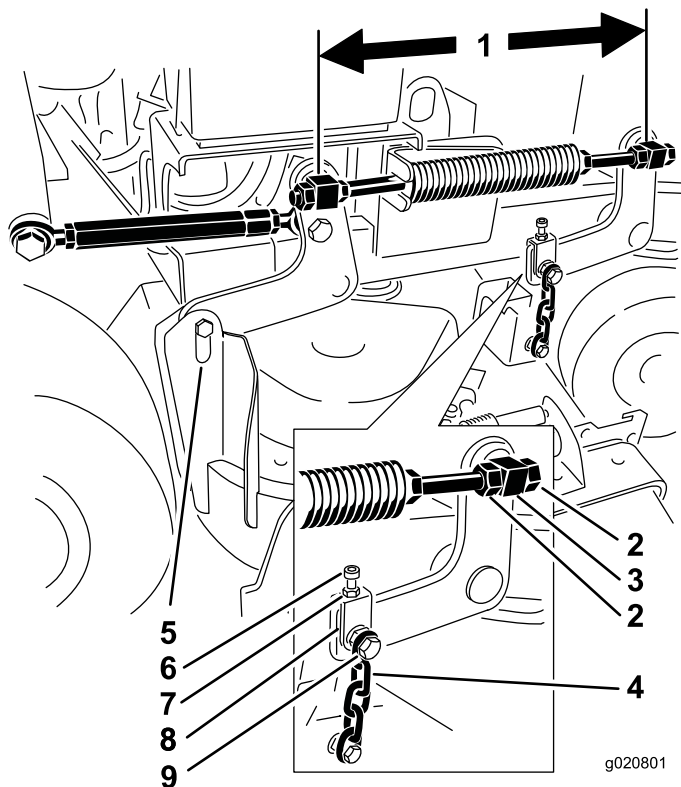

Figure 81
6. Check the distance between the swivels, measure at the center of the swivels (center-to-center length) on each threaded rod. Ensure the length is 49.5 cm (19-1/2 inches) for 36 inch mower decks and 43.7 cm (17-3/16 inches) for 40 inch mower decks (Figure 81).
11. If adjustment is needed, loosen the upper chain bolt (Figure 81).
7. Loosen the upper chain bolts (Figure 81).